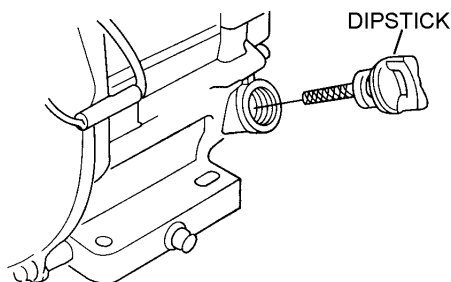

Figure 4. Engine Oil Dipstick (Removal)
2. Remove the filler dipstick from the engine oil filler hole (Figure 4) and wipe it clean.
Failure to understand the operation of the mixer could result in severe damage to the mixer or personal injury. See Figure 4 for the location of any control referenced in this manual.